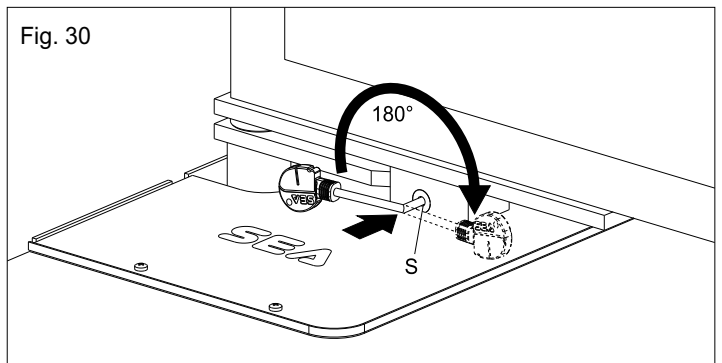

Fig. 30
- Insert the enclosed key into the keyhole (S) and turn the handle about 180° against the centre of the gate (Fig. 30).